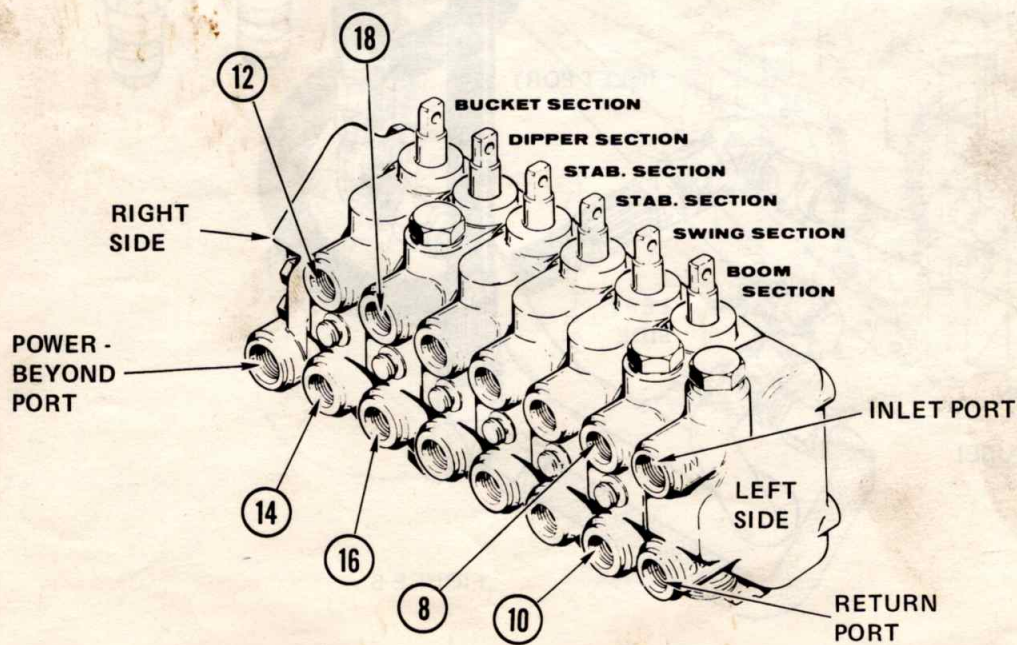

FIGURE 4
3. Install elbow fittings in valve. See Figure 4.